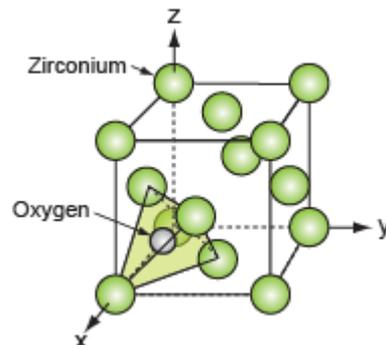

Figure C40. The M atoms of fluorite-structured oxides pack in an FCC array, with oxygen in the tetrahedral interstices.
The metal atoms in the important technical ceramic zirconium dioxide,  $ZrO_2$  and the nuclear fuel uranium dioxide,  $UO_2$ . Zirconium and Uranium lie far down in the periodic table and are large in size – larger than the Oxygen. In these it is the Zr or U atoms that form a close packed FCC structure and it is the oxygens that fit into the tetrahedral interstices in it, as shown in Figure C40.
- E38.** Use the symmetry of the structure to infer how many tetrahedral holes there are in the FCC unit cell of Figure C40.